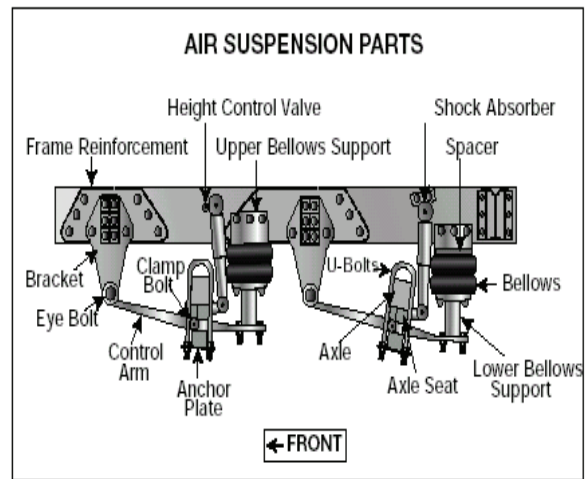

Figure 2.4
- ✓ Air suspension systems that are damaged or leaking. See Figure 2.4.